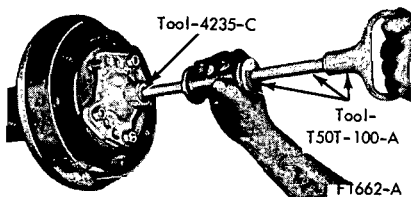

FIG. 1 Removing Axle Shaft
3. Working through the hole provided in each axle shaft flange, remove the nuts that secure the wheel bearing retainer plate. Then pull the axle shaft assembly out of the axle housing (Fig. 1). The brake backing plate must not be dislodged. Install